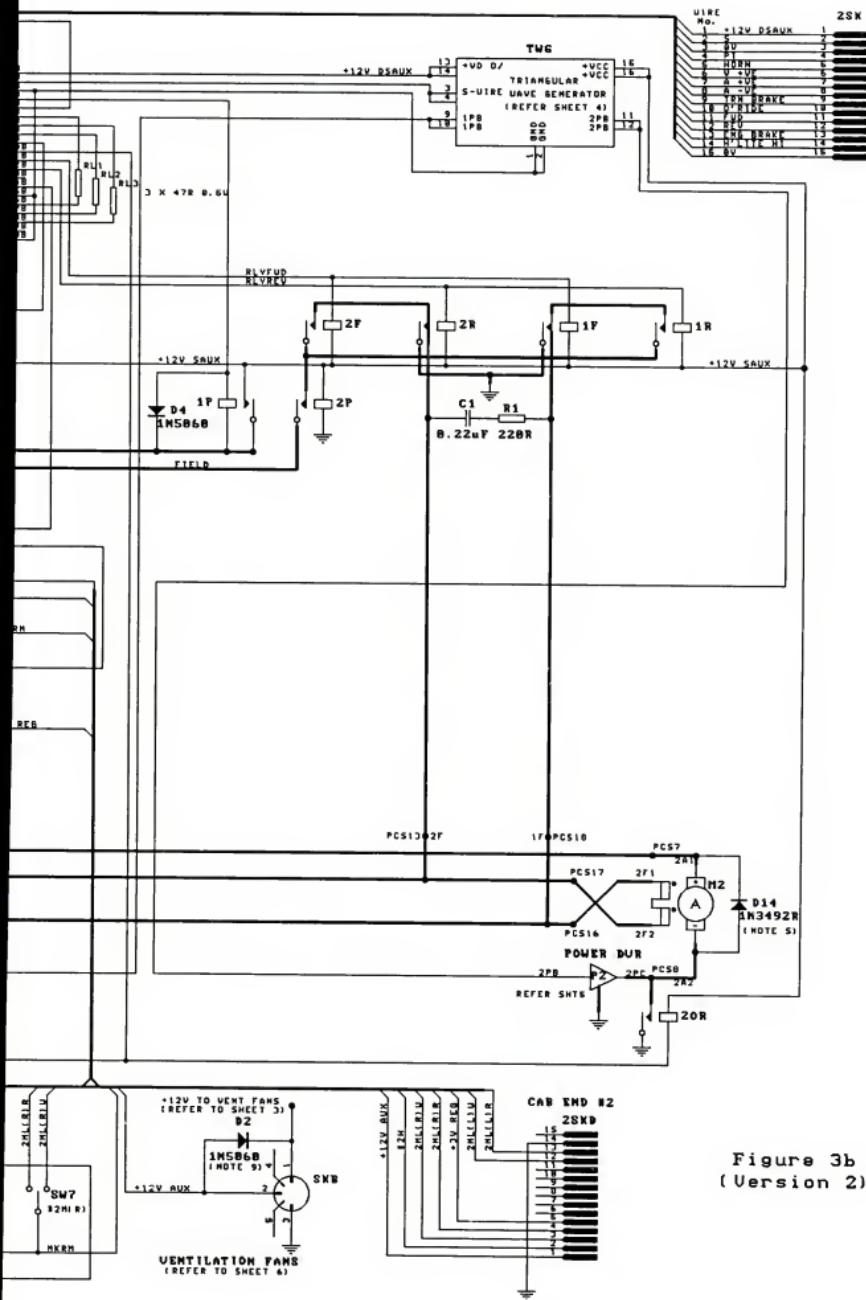
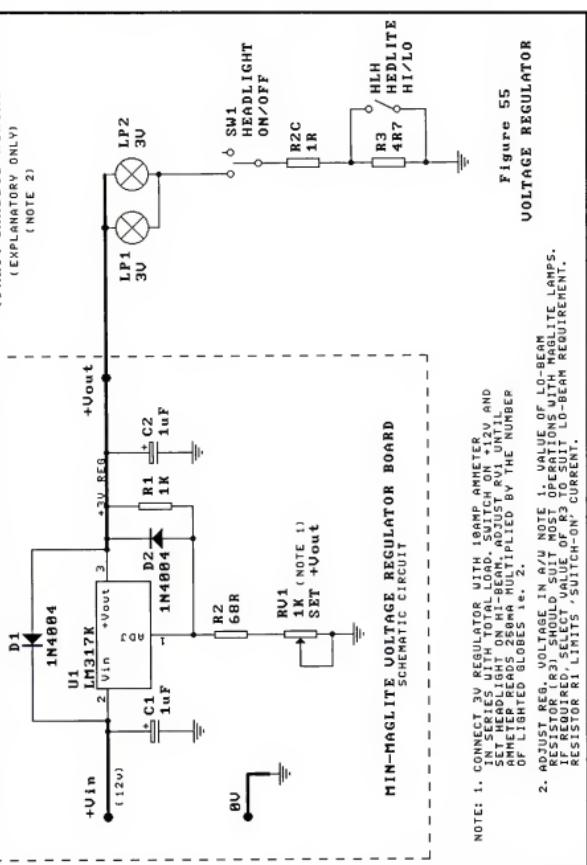

Figure 3b
Figure 55
- Several constructors have had a problem with the driver's console Voltmeter/Ammeter indications. Subsequent investigation has showed a possible metering error can occur if low impedance voltmeters are used in conjunction with the common circuit feeding the series protection resistor R11 (47 ohms) and the ammeter via CCS pin 6. The following solution is offered to minimize the problem. The preferred wiring is described below. Refer to Figure 3b, which supersedes previously published Figures 3 and 3a.
So that we can operate the 3 volt head light lamps from the +12V AUX battery supply, we need to have a voltage device which is adjustable. To attain this a voltage regulator is required to reduce the +12 volts from the No.1 battery to just under 3V for the supply to the MINI MAGLITE AAA headlight lamps. One regulator is required per locomotive and a schematic circuit of the unit is shown in Figure 55 and a parts list is also shown. The parts should be readily available and cost about AS15 (includes matrix board). The revised schematic and (Figure 3b) shows the input to the regulator connected to the +12V AUX supply in the locomotive chassis and the return side connected to 0V. The output is fed to the headlight lamps via
The schematic diagram (Figure 3b) and cab circuit diagram (Figure 51b) show the updated wiring. The cab connectors (1.2PLD, 1.2SKD) provide the quick disconnect between cab and chassis wiring. The 5-pin DIN connector (as originally specified) is replaced by the larger capacity DB15 HD 15 way connector. This size was chosen because it was already used at each end of the m.u. cable and carrying spare shells or male and female connectors reduced inventory even if a little dearer than others available on the market. It also provided spare pins for any additional cab circuits you may require in the future. Table 1 shows the extra parts required for these changes. I recommend at least an 8-way miniature screw terminal strip (TS) be used to inter-connect the cab fixed wiring and the flexible lead to PLD. The TS strip may be fixed low down on the left side of the cab by two countersunk screws, nuts and washers, etc. It should make for easier installation and maintenance. If you think